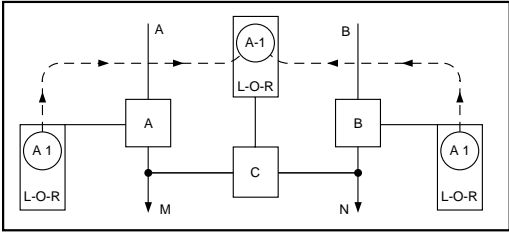

Figure 4
**Sample Application—4 (Main-Tie-Main) (See Figure 4)**